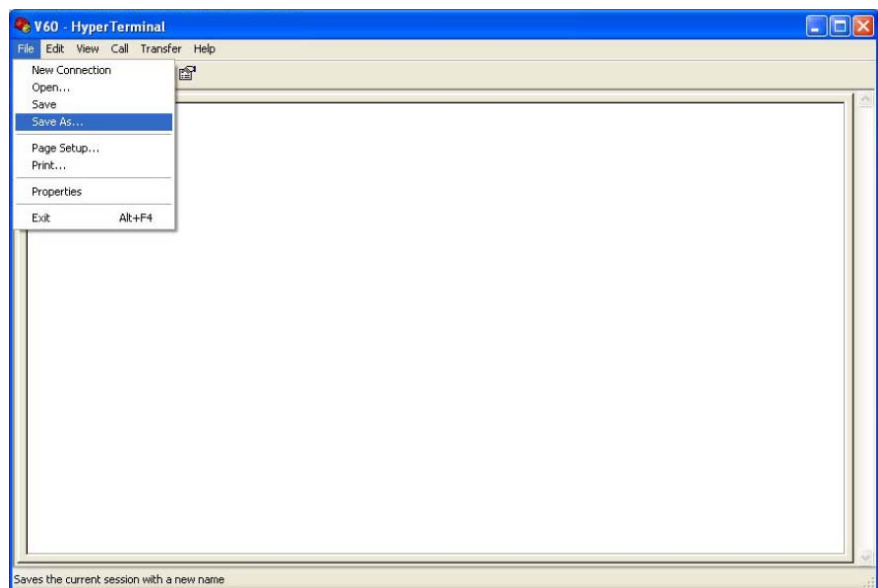

Figure 6-8: Saving the V60 Icon to the Desktop
9. Select **File**, then **Save As** and save the V60 icon to the Windows desktop (Figure 6-8).